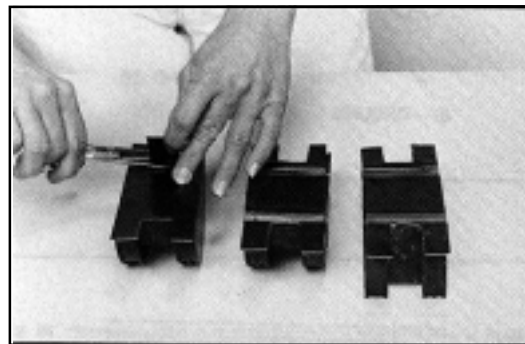

FIGURE 12 – SQUARE CUT BOLT HOLES
- 6.05** Square cut the tape away from the bolt holes. (The area just beyond the metal insert.) (Figure 12)